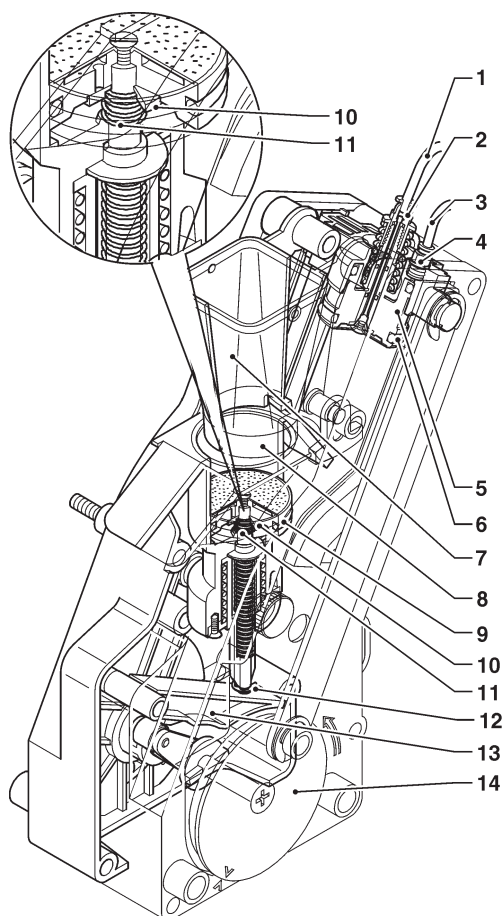

Fig. 22
After having powered on the machine, the coffee unit will perform two complete rotations at the first selection before performing a normal cycle in order to make sure that the device is put into the initial position. If you request for a coffee-based selection, the grinder will work for the time required to fill in the brewing chamber with the coffee dose set up via software. After having reached the dose of ground products, the ratio-motor engaged on the crank (11) of the unit will turn by 180°, thus causing the brewing chamber (8) to swing (see fig. 22).